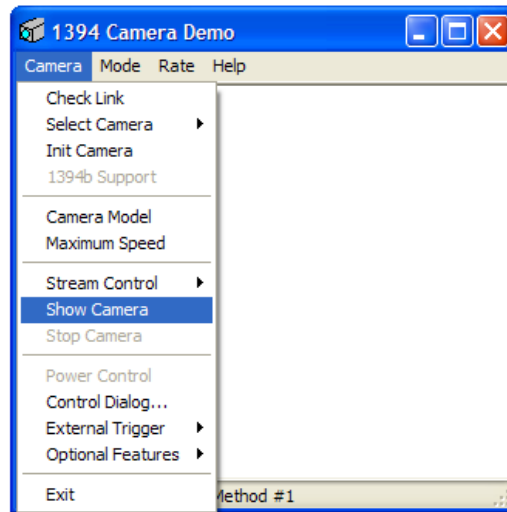

Figure 3.7 Show Camera
- g. Display the camera output: **Camera→Show Camera (Figure 3.7)**.